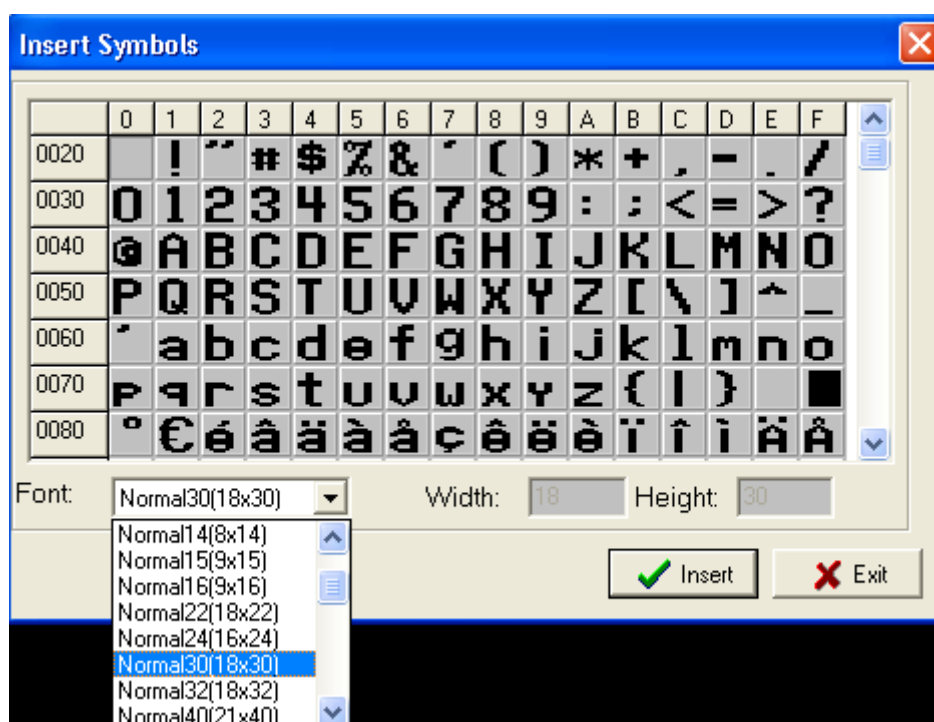

Fig. 2.13 Insert Symbols Interface
**Insert Symbols:** This function helps the user to insert some special symbols whenever they need. Sometime we find that it is not that convenient to insert some special symbols, because they can't be found on the keyboard. That is why we need the function of "Insert Symbols". As shown in Fig. 2.13, we can see the special symbols and characters of font Normal130. The symbols and the characters vary with different types of fonts.